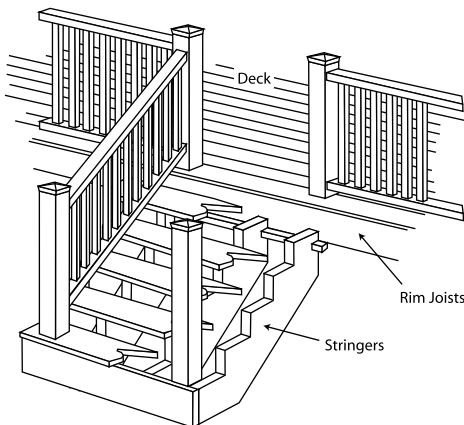

Figure 18
1. Position two line posts at top of stairway with the desired spacing and secure each post with the appropriate bracket (Fig 18).